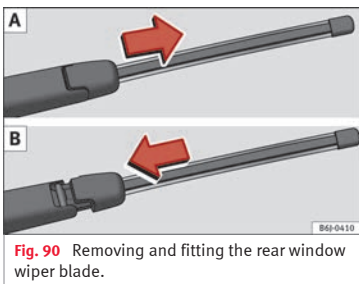

Fig. 90 Removing and fitting the rear window wiper blade.
- Slide the blade adapter in the direction of the arrow and remove the blade »» Fig. 90 A.
- Place the blade as shown in »» Fig. 90 B and slide the adapter along until it engages.